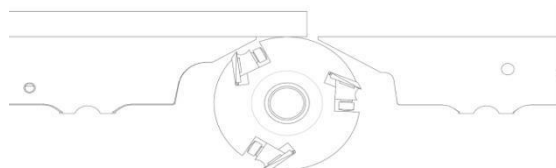

Fig.29: Straight Edge
STEP 1: Place a straight edge on outfeed table over the cutterhead and slightly touching the cutterhead body as shown in **FIG. 29**.